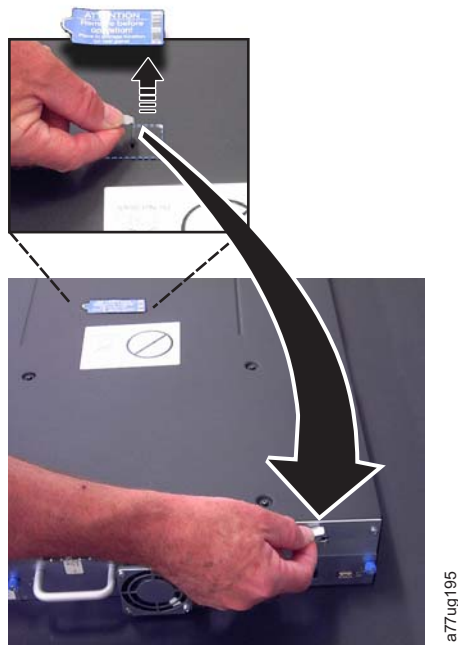

Figure 10-14. Removing the shipping label and lock from the top of the library and storing on the rear panel
4. Remove the shipping lock from the top of the replacement library enclosure (see Figure 10-14 on page 10-16).